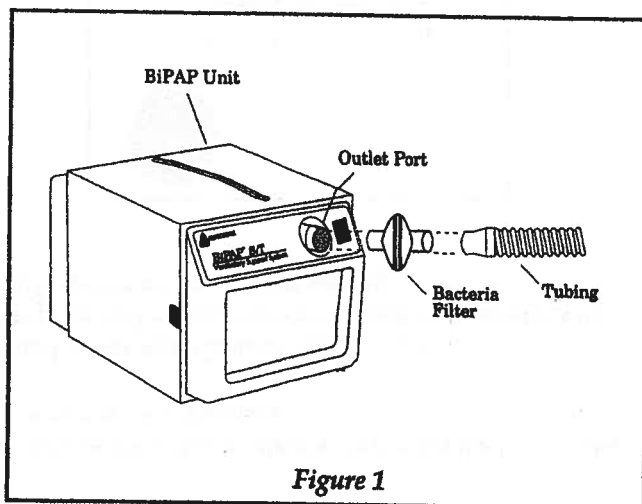

Figure 1
- Step 1 See Figure 1. Connect the inlet of a bacteria filter to the airflow outlet on the front of the BiPAP S/T unit. Connect one end of the long tubing to the outlet of the bacteria filter.